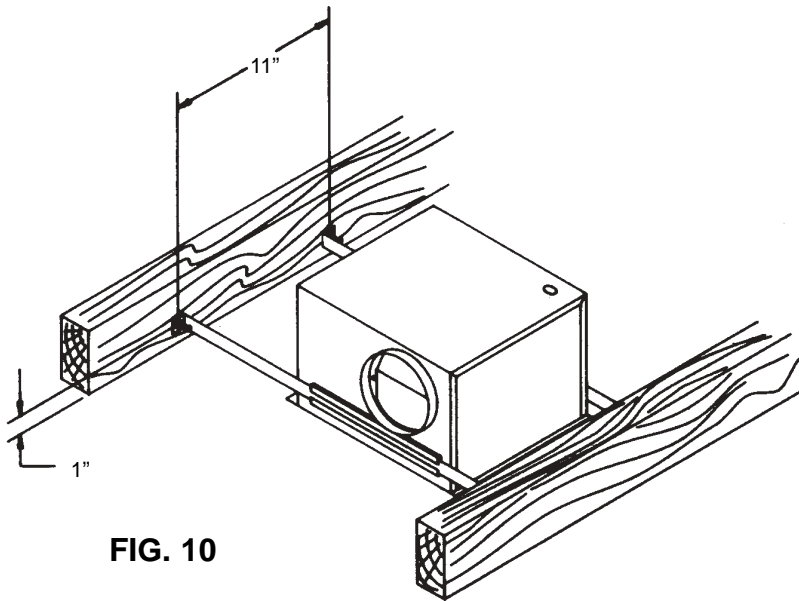

FIG. 10
5. Insert (4) mounting brackets with angles pointing away from housing. In approximate location between joist where housing will be located, drive (2) nails (4D or 6D) 1" from bottom of joist, 11" apart leaving 1/4" of nail projecting. Position one set of mounting brackets over nails and drop into place. Extend the remaining mounting brackets to the adjacent joist and repeat nailing procedure. Finish driving nails and adjust housing between ceiling joist. See Fig. 10.